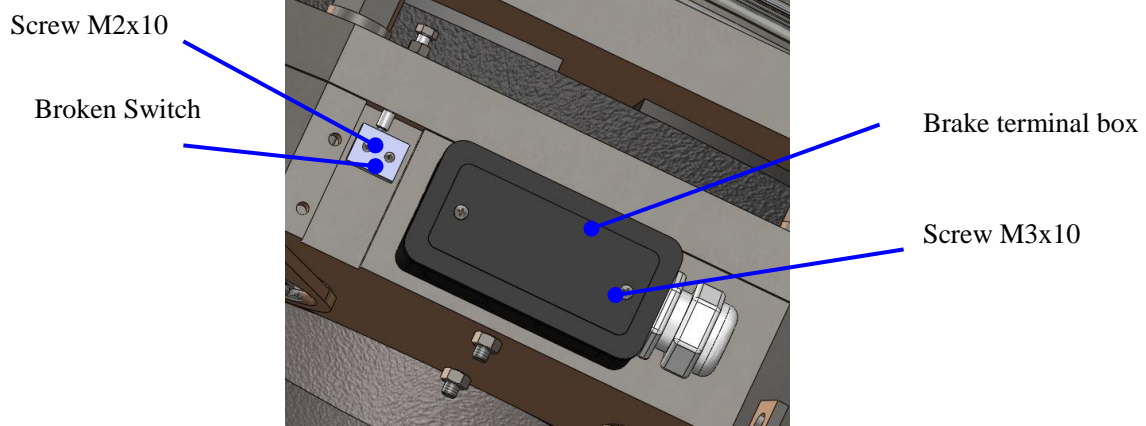

Figure 46: Brake switch removal
2. Loosen the screw M3x10 in the brake terminal box using the Phillips head screw driver, and remove the terminal box cover. See Figure 46.